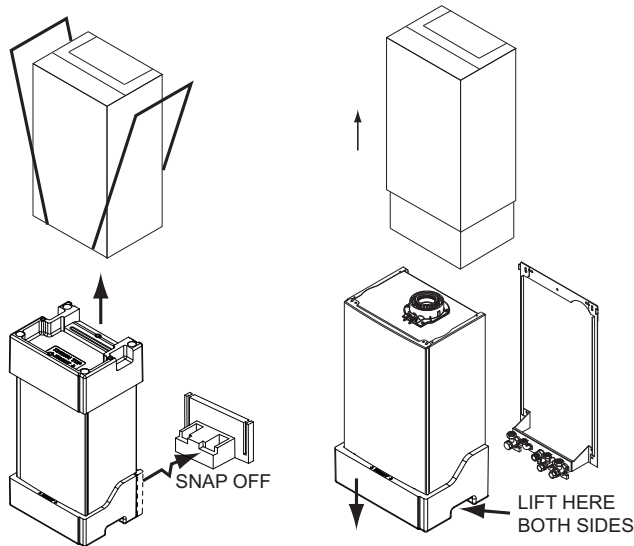

Fig. 15
2. Follow the procedure on the carton to unpack the boiler or see Fig. 15.